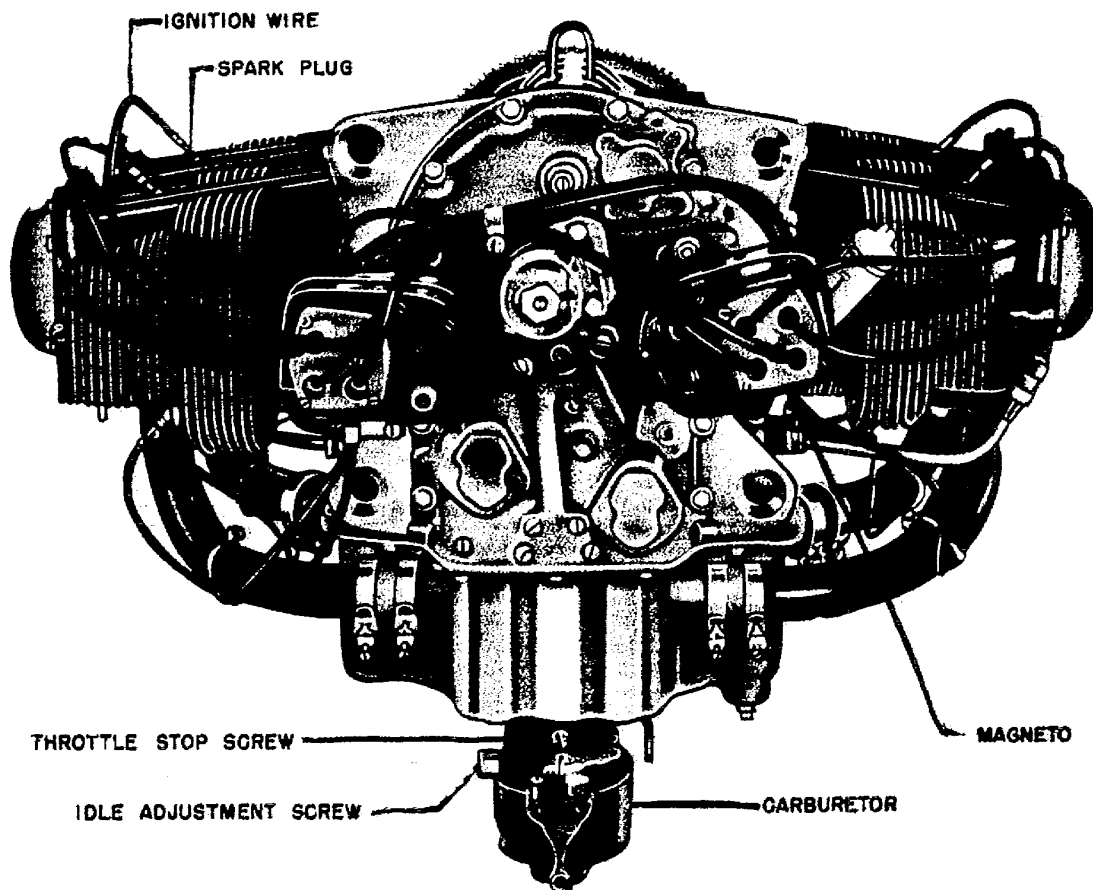

Figure 5-11. Lycoming Engine
5-37. DESCRIPTION. (See figure 5-11 and 10-1.) Dual ignition is furnished by two magnetos; the left magneto incorporates an impulse coupling. The ignition wiring is arranged so that the left magneto fires the top plug in the LH cylinder and the bottom plug in the RH cylinder, while the right magneto fires the bottom plug of the LH cylinder and the top plug of the RH cylinder (figure 10-1). This design insures consistent drop-off when switching from both magnetos to either the right or left magneto.
5-42. INSTALLATION AND TIMING OF MAGNETOS. (See figure 5-11 and 10-1.) Time and reinstall the magnetos according to the following procedure:
5-51. SERVICING THE CARBURETOR. The carburetor is a Marvle-Shebler model MA 3SPA carburetor (figure 5-11). This carburetor is of the single barrel float type equipped with an altitude mixture control and an idle cut-off. Particularly good distribution of the fuel air mixture to each cylinder is obtained by the center zone induction system which is integral with the oil sump and is submerged in oil insuring a more uniform vaporization of fuel and aids in cooling the oil in the sump. From the riser the fuel air mixture is distributed to each cylinder by separated steel intake pipes.
a. With engine thoroughly warmed up, set throttle stop screw (see figure 5-11) so that engine idles at approximately 550 rpm.
b. Turn idle adjusting screw (figure 5-11) towards "RICH" position until engine "rolls" from richness, then turn screw slowly towards the "LEAN" position (indicated by letter "L") until engine "lags" or runs "irregularly" from leanness. This step will give an idea of the idle adjustment range and of how the engine operates under these extreme idle mixtures.